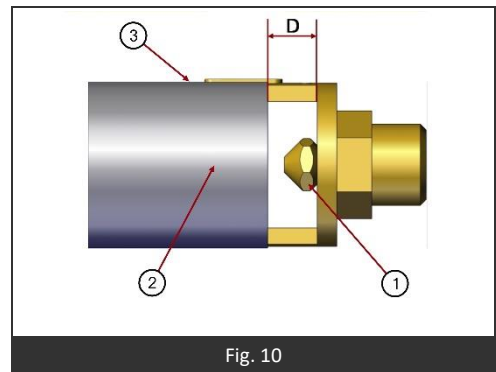

Fig. 10
- 2- Access the air sleeve (Fig. 10 – Item 2), unscrew it (Fig. 10 – Item 3) then slide it so that the injector on the mounting bracket can be accessed.
- 3- Unscrew the injector (Fig. 10 – Item 1), then replace it with the appropriate injector for the type of gas used (see adjustment tables above).